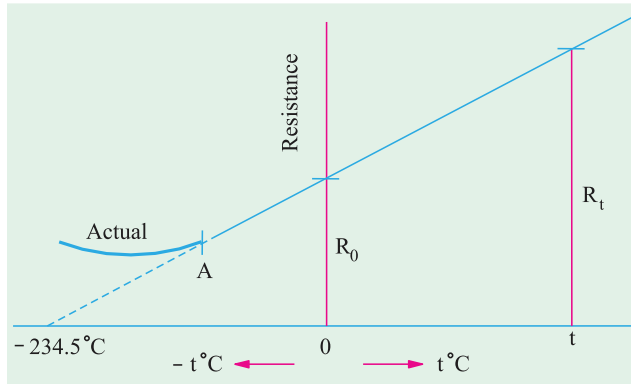

Fig. 1.6
- (i) to **increase** the resistance of pure metals. The increase is large and fairly regular for normal ranges of temperature. The temperature/resistance graph is a straight line (Fig. 1.6). As would be presently clarified, metals have a positive temperature co-efficient of resistance.
It should be remembered that the above equation holds good for both rise as well as fall in temperature. As temperature of a conductor is decreased, its resistance is also decreased. In Fig. 1.6 is shown the temperature/resistance graph for copper and is practically a straight line. If this line is extended backwards, it would cut the temperature axis at a point where temperature is -234.5°C (a number quite easy to remember). It means that theoretically, the resistance of copper conductor will become zero at this point though as shown by solid line, in practice, the curve departs from a straight line at very low temperatures. From the two similar triangles of Fig. 1.6 it is seen that :